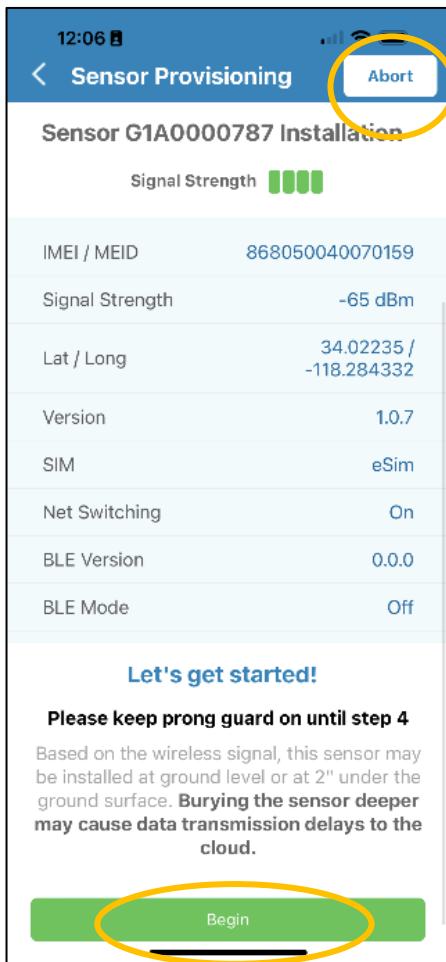

Figure 31
- d. Select “Abort” button to reset the Sensor back to “Inventory.” (Figure 31)
- c. Select the Sensor. Select "Abort" button to reset the Sensor back to "Inventory." (Figure 31)